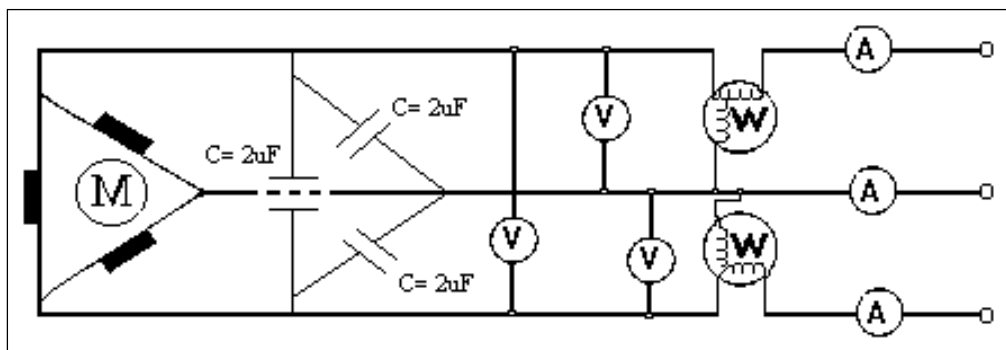

Figure 3.5: 3-phase induction motor Δ -connected with capacitors Δ -connected.
3. Now connect the capacitor bank ($2\mu\text{F}$ Δ -connected) across the terminals of the motor as in figure 3.5.